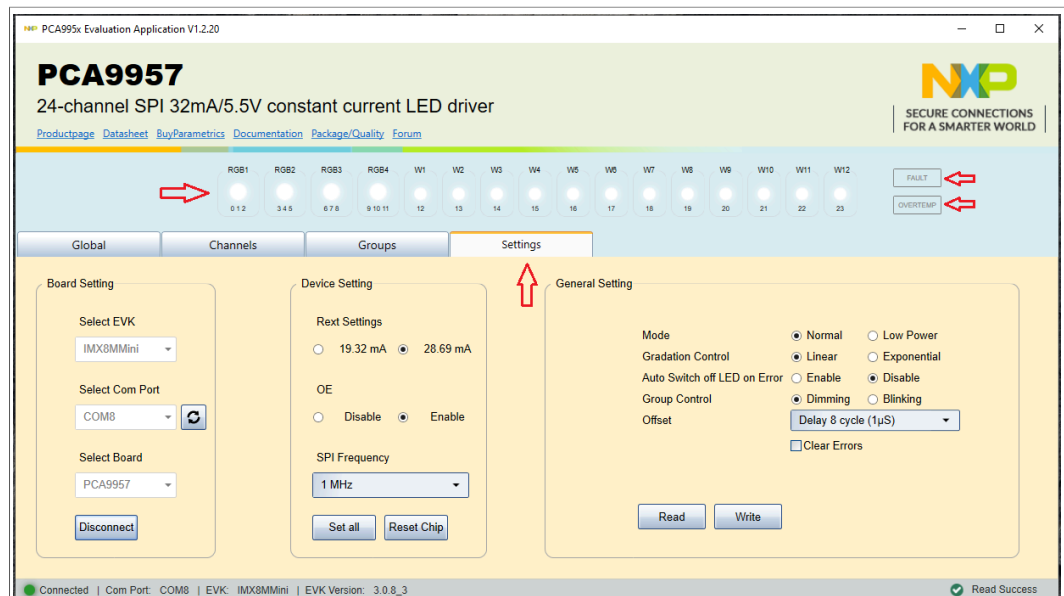

Figure 10. Graphical user interface — Settings tab activated
This section describes the GUI application and how the user can control the PCA9957HN-ARD daughter board from the graphical interface: First, install the GUI package and software package downloaded from the NXP site (here) on the PC (Windows 10). For more installation details, download and read EVK_Firmware_And_GUI_Install_Guide_For_Arduino_Boards.pdf instruction file from the NXP site (here). Once installation is complete, assure that one of the three supported EVKs with the attached PCA9957HN-ARD daughter board is connected to the PC and powered-on. Open the NXP_GUI(PCA995x) GUI application. An interface will appear as is shown in Figure 10
- **Select Board** allows the user to select the correct daughter board (the application can support three different boards). In Figure 10 the selected board is **PCA9957**.